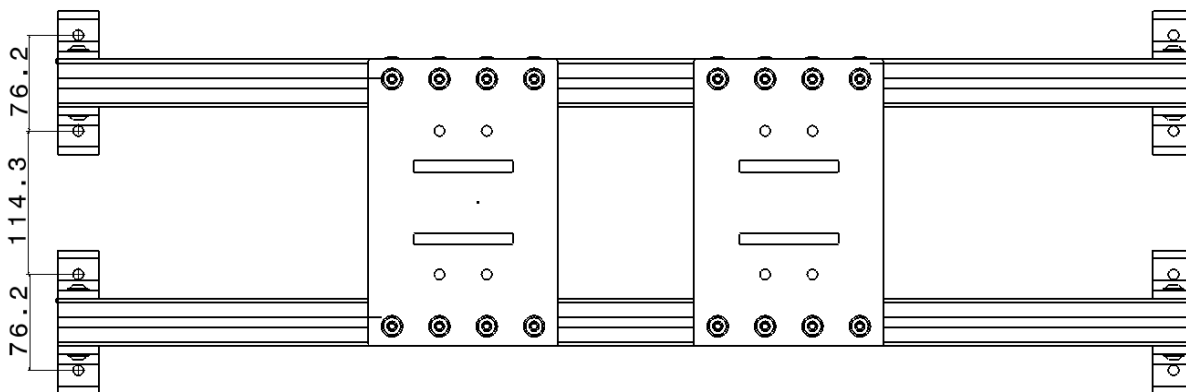

Fig. 3.4: One-axis railing system
- One-axis ground railing system shown in Fig. 3.4 (SKU#: KBHED)
- ❑ Once inserted, the assembled railing system will look similar to Fig. 3.4.